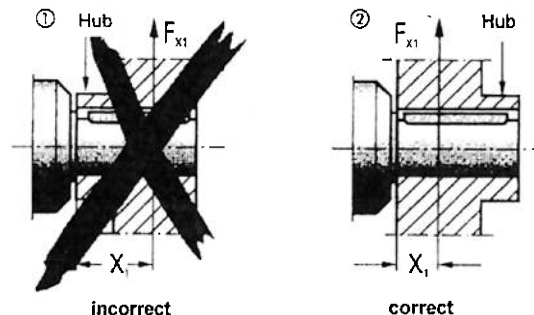

Fig. 2: Correct mounting arrangement of a gear wheel or sprocket
Fig. 2 displays the correct mounting arrangement of a gear wheel or sprocket to prevent excessively high overhung loads.
- Power transmission elements should be balanced after fitting and must not give rise to any impermissible radial or axial forces (see Fig. 2 / permitted values see the "Geared Motors" catalog).